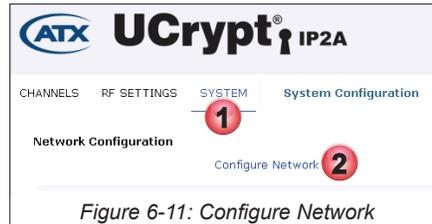

Figure 6-11: Configure Network
1. Click the **System** Tab if isn't already selected, Figure 6-11.